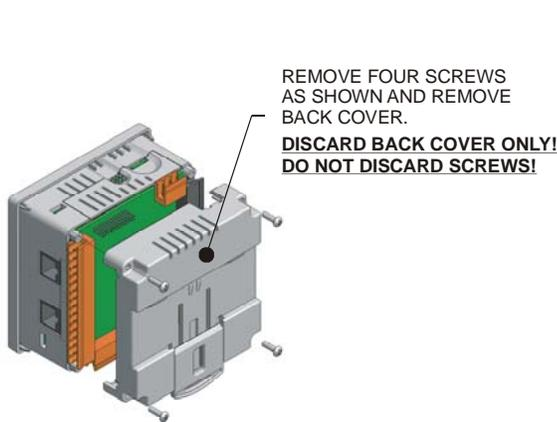

Figure 1-Removing Back Cover of the XLE
2. Remove the four screws on the back of the XLe unit and remove the back cover. The back cover can be discarded or saved, but it will be replaced with the extended back cover that ships with the communication add-on. Screws are re-used (Figure 1).